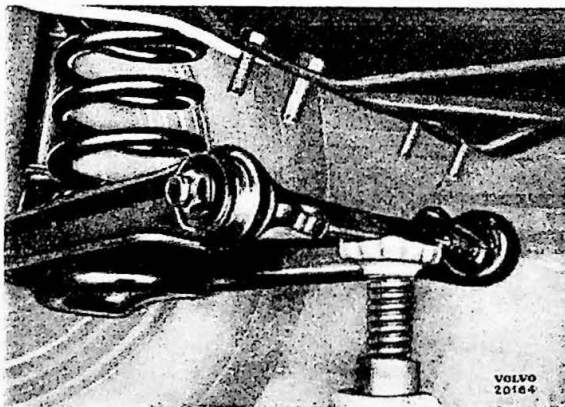

Fig. 1.
3. Place a jack under the lower control arm and unscrew the four nuts on the front axle support member bracket. Fig. 1.
2. Lift up the control arm until the spring rests with the upper end in the seat on the front axle support member, and then place a jack under the control arm. Fig. 1.